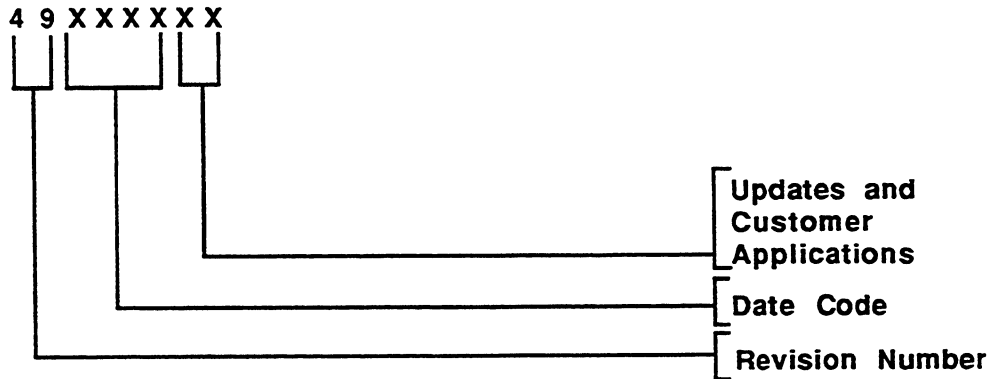

FIGURE 3-1. MAIN CPU PROGRAM I.D.
- Press **RECALL**; display will increment to Mode 90-08; press **PRNT/ENTR**. Data is the Main CPU Program I.D. See Figure 3-1 for an example.